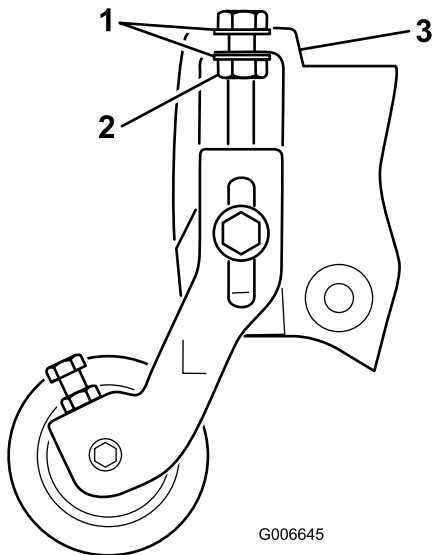

Figure 5
Note: The washers on the height of cut adjusting bolts must be located on each side of the flange on the side plate (Figure 5).
10. Tighten the locknut on the height of cut adjuster bolt until the washers contact the side plate flange, then back-off the nut 1/2 turn (Figure 5).